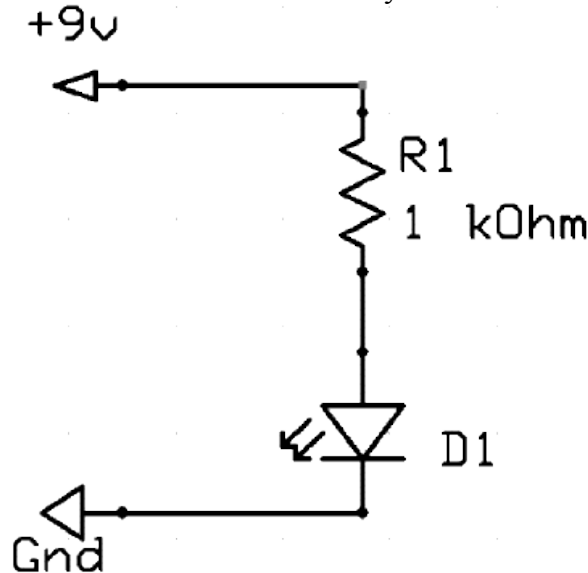

Figure 1. Series circuit used to test LEDs.
B. Do you agree with the current direction in the schematic on the left in Figure 1? If that current direction is correct you should notice that the lower part of R is at a higher voltage than the upper part.